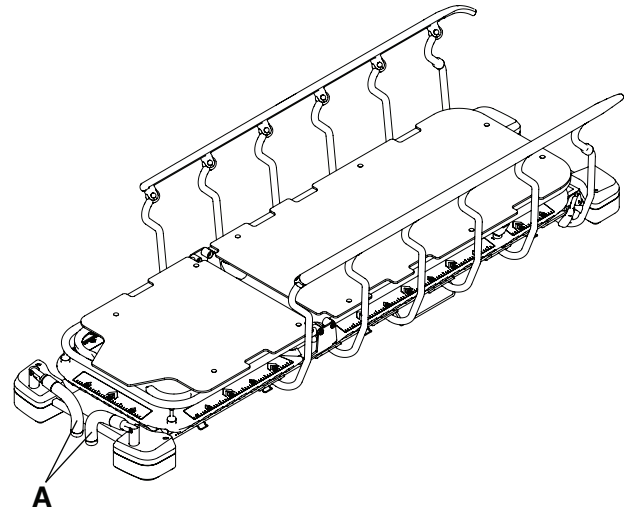

Figure 7 – Stowing the head end push handles
4. Reverse steps to stow the head end push handles (A) (Figure 7).